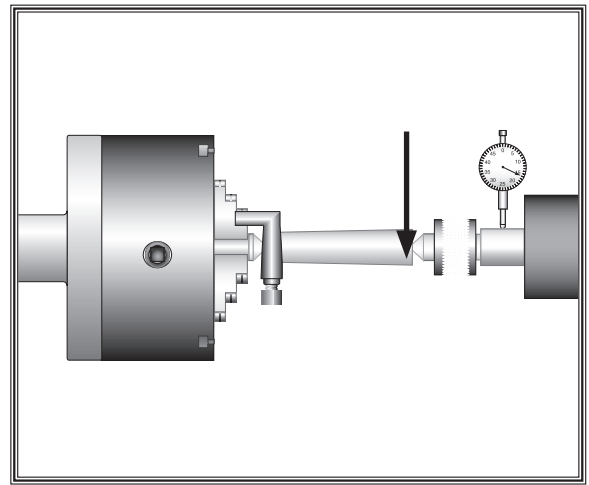

Figure 21. Tailstock adjustment option #1.
- If the stock diameter is thicker at the tailstock end, the tailstock needs to be moved toward you half the distance of the amount of the taper (see **Figure 21**).